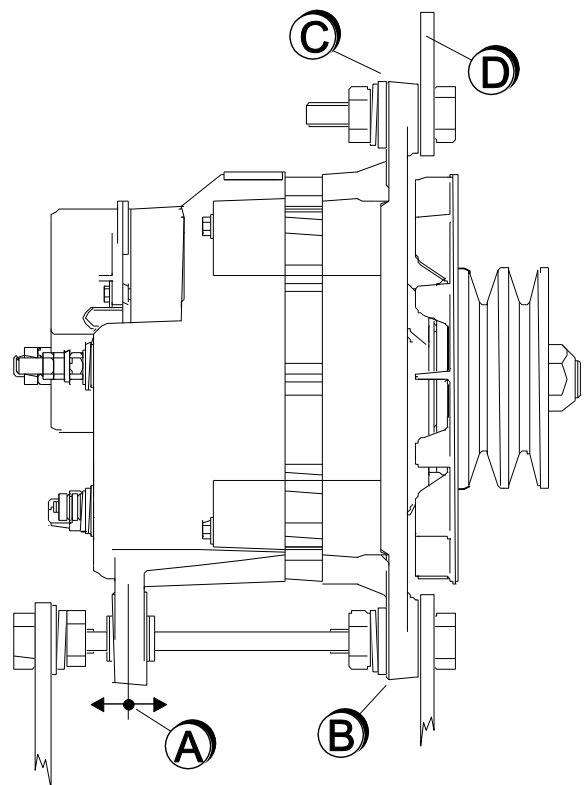

Figure 5
- 2 Loosely attach the mounting bracket to the engine with the mounting engine bolts. Position the alternator mounting foot between the two ears (Figure 5, references A and B) on the mounting bracket with the alternator mounting bolts. Note that the ear at the rear side of the alternator housing should be fixed in such way that it can freely move in the direction of the arrow (see Figure 5, reference A). This is to avoid mechanical stress due to possible high temperatures of the alternator.
- 4 Loosely attach the alternator adjustment strap (Figure 5 and 6: reference 2) to the alternator adjustment ear (Figure 5, reference C) with the bolt, lock washer and flat washer.
- 5 Tighten the V-belt by applying pressure to the alternator front housing only and tighten the bolt to the adjustment ear (Figure 5, reference C). Set the belt tension per belt manufacturer's recommended specifications. If manufacturer's specifications are not readily available, set V-belt tension tight enough so that the V-belt on alternator fan pulley will not slip when attempting to rotate alternator by hand.